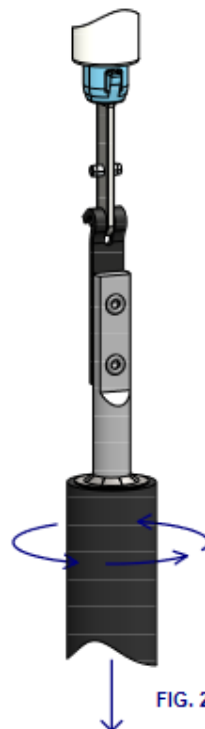

FIG. 2
3. ENGAGE TENSIONING TOOL WITH LOWER ROLL PIN ON BALANCE ROD AND DISENGAGE ROD FROM PRETENSION ANCHOR BY SIMULTANEOUSLY PULLING AND ROTATING TENSIONING TOOL CLOCKWISE (WHEN VIEWED FROM BELOW). BE CAREFUL NOT TO LOOSE PRETENSION TURNS (SEE FIG. 2).